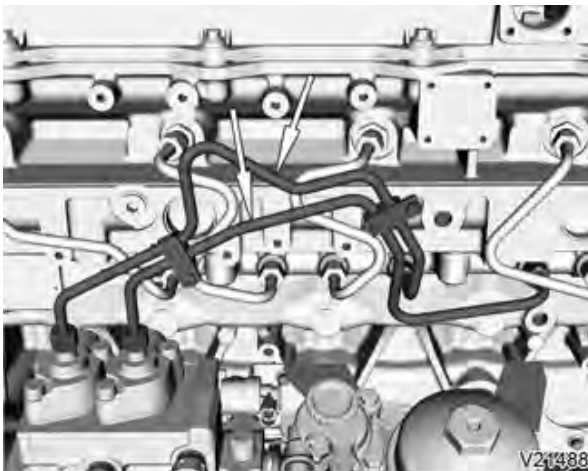

Figure 27. Fuel to Rail Supply Clamp Assembly
14. Install new HP fuel pump to rail tube assembly between HP fuel pump and fuel rail. Hand tighten line fitting nuts: start with those at fuel rail first, and then at fuel pump (Figure 27).